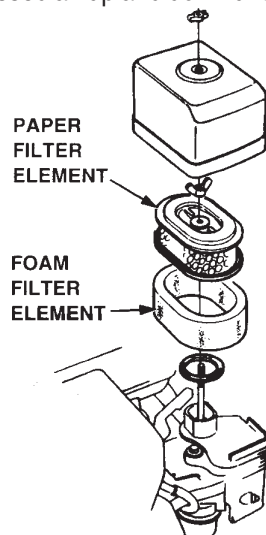

Figure 15. Air Filter
2. To clean or replace air filter loosen the wing nut on the air filter housing (Figure 15), remove the cover and take out air filter cartridge. If only cleaning of the air filter is desired blow through the air filter cartridge from the inside, moving a jet of dry compressed air up and down until all dust is removed.